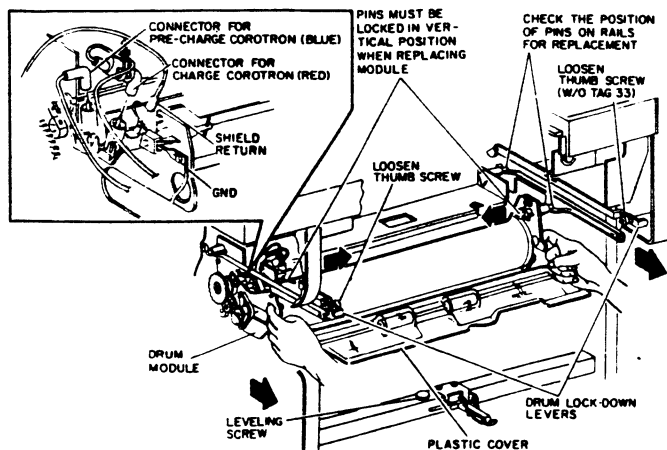

Figure 1. Removing the Drum Module
4. REMOVE DRUM MODULE (FIGURE 1).